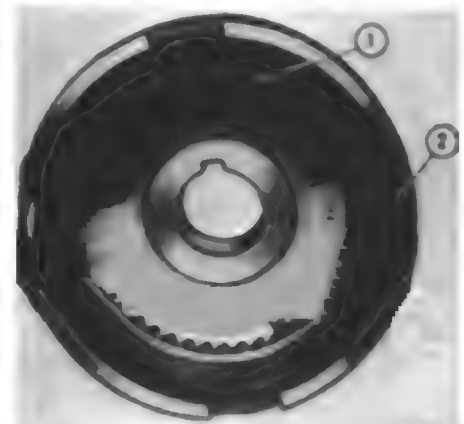
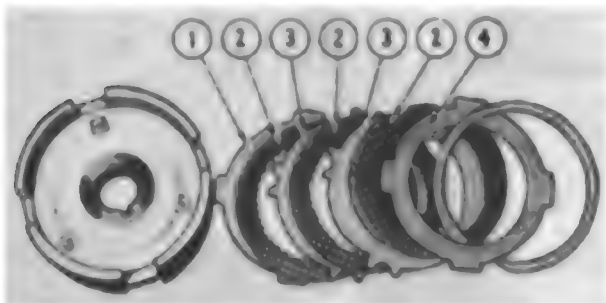
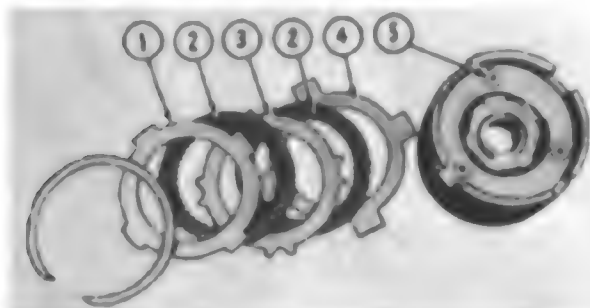

Fig. 66 - On direct drive side of TA clutch, press inward on back plate (1) and remove snap ring (2).
Fig. 67—View showing components removed from direct drive side of TA clutch.
Fig. 69—Components removed from TA side of torque amplifier clutch.
Remove three cap screws (2) attaching input shaft bearing housing (3) to clutch housing. Then, withdraw input shafts, bearing housing and torque amplifier assembly. Remove bearing housing, pto input shaft and bearing from front end of TA input (clutch) shaft. Remove snap ring (1 - Fig. 65) from shaft (2) and slide clutch assembly (3) from shaft and bearing cage assembly. Refer to Fig. 66 and press inward on direct drive side back
plate (1), then remove snap ring (2). Lift out back plate (4—Fig. 67), three clutch discs (2), two separator plates (3) and piston back plate (1). Press inward on TA side pressure plate (1—Fig. 68) and remove snap ring (2). Then, lift out back plate (1—Fig. 69), two clutch discs (2), separator plate (3) and inner back plate (4). Loosen the three bolts (5) evenly until tension is removed from the Belleville washers, then remove the bolts. Separate pressure plate (1—Fig. 70) and Belleville washers (2) from shallow side of clutch cup and the direct drive piston (3) from deep side of clutch cup. Clean and inspect all parts and renew any showing excessive wear or other damage.
seal rings (6 and 7—Fig. 70) in grooves of direct drive piston (3). Using new bolts, install pressure plate (1) and Belleville washers (2). (Outer diameter of Belleville washers must contact pressure plate.) Then, on deep side of clutch cup, install support washers (4), piston assembly (3) and new nuts (5). Tighten bolts evenly to a torque of 5 to 6 ft.-lbs. and stake the nuts to the bolts in two places. Install inner back plate (4—Fig. 69), clutch disc (2), separator plate (3), second clutch disc (2) and outer back plate (1). Press inward on pressure plate to compress Belleville washers and install the snap ring (Fig. 68). On direct drive side, install piston back plate (1—Fig. 67), clutch disc (2), separator plate (3), second clutch disc (2), separator plate (3), third clutch disc (2) and outer back plate (4). Press inward on back plate (1—Fig. 66) and install